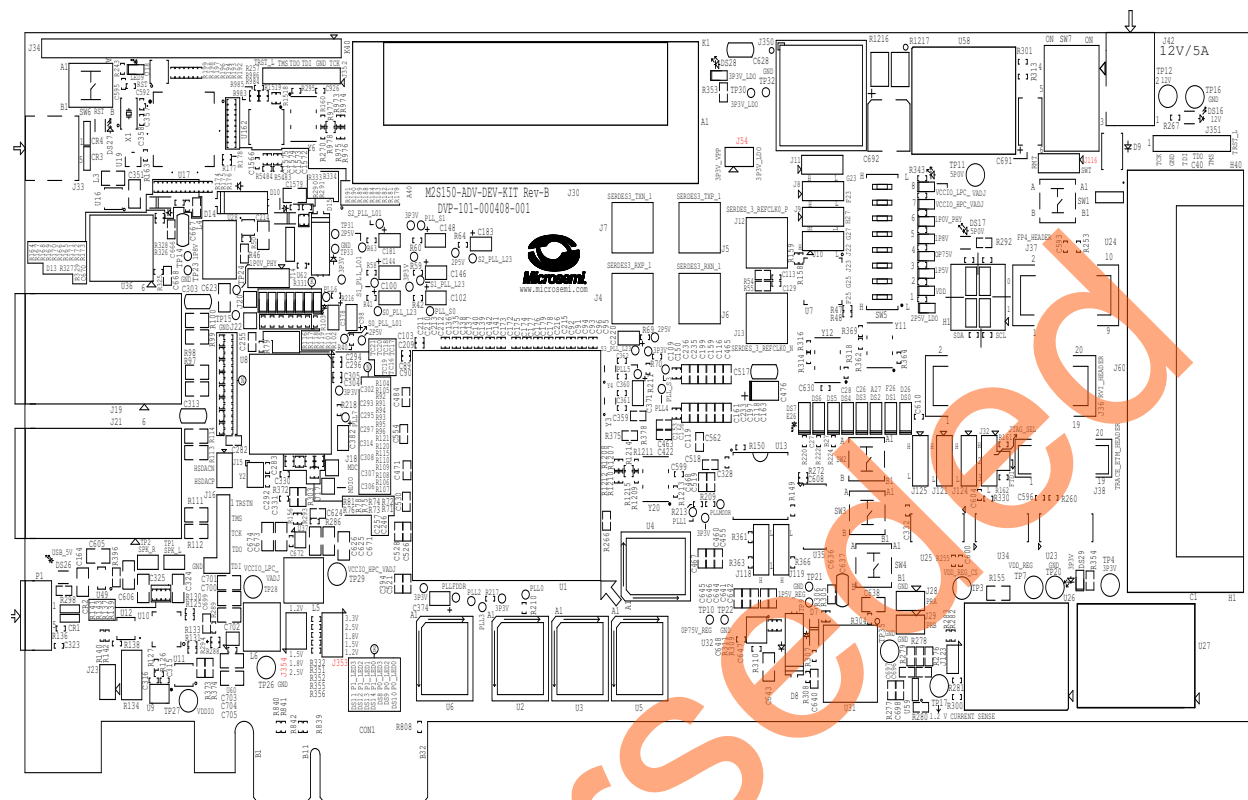

Figure 2 • SmartFusion2 Advanced Development Kit Board Jumper Locations
Figure 2 shows the jumper locations on the SmartFusion2 Advanced Development Kit board.
- The locations of the jumpers in Figure 2 are searchable.